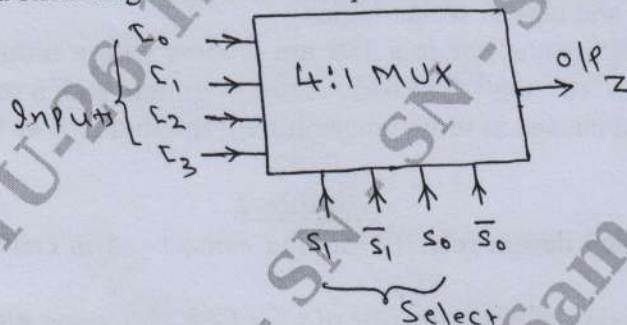

Fig.Q8(a)
- 8 a. Construct a stick diagram for a multiplexer shown in Fig.Q8(a) using CMOS.